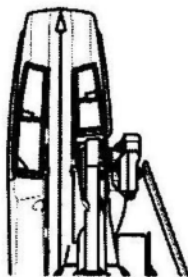

FIG 17
5. Line edger up along lip of bunker edge. You can see the edge by looking through the viewpoints at either side of the guard (see Fig 17). Set height adjustment at setting No.1.